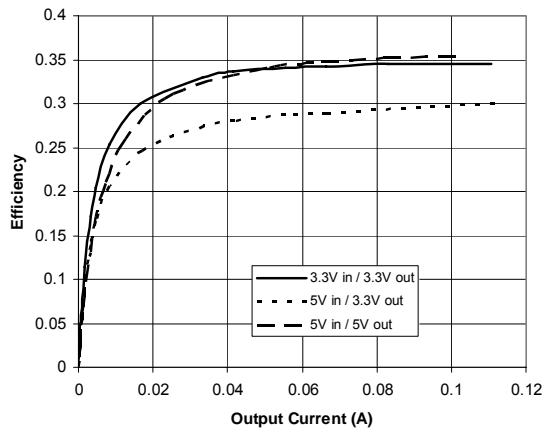

Figure 6. Typical Power Supply Efficiency at 5V/5V, 3.3V/3.3V and 5V/3.3V
- E is the power supply efficiency at 100mA load from Figure 6 at the VISO and VDD1 condition of interest.